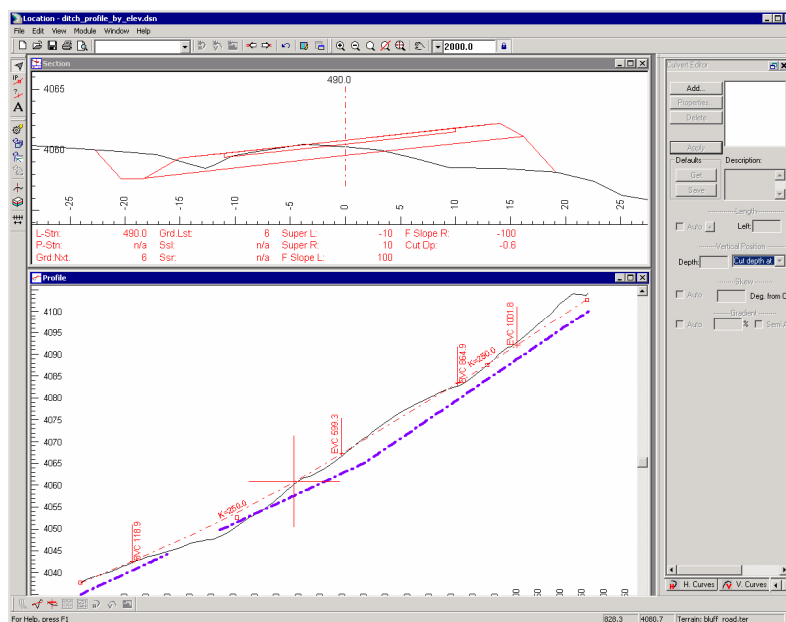

Figure 5.31: Profile with Ditch Displayed
16. Select the Template Codes item. Press OK. Your profile window should appear as shown in Figure 5.31.